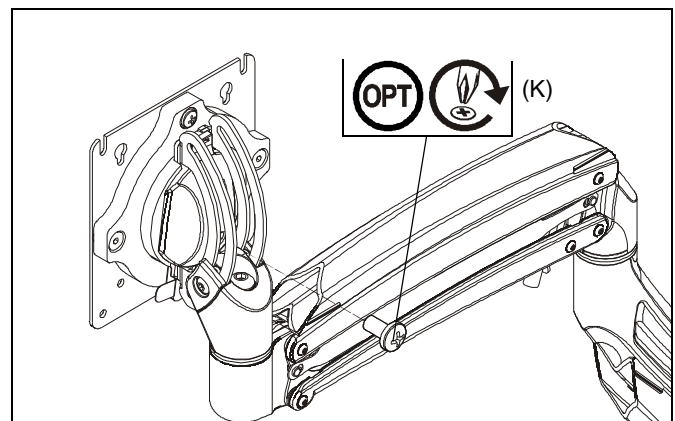

Figure 25
NOTE: In order to prevent display from being easily removed from mount using the quick release lever, install M4x4mm security screw (K) into lower hole on back of faceplate. (See Figure 25)